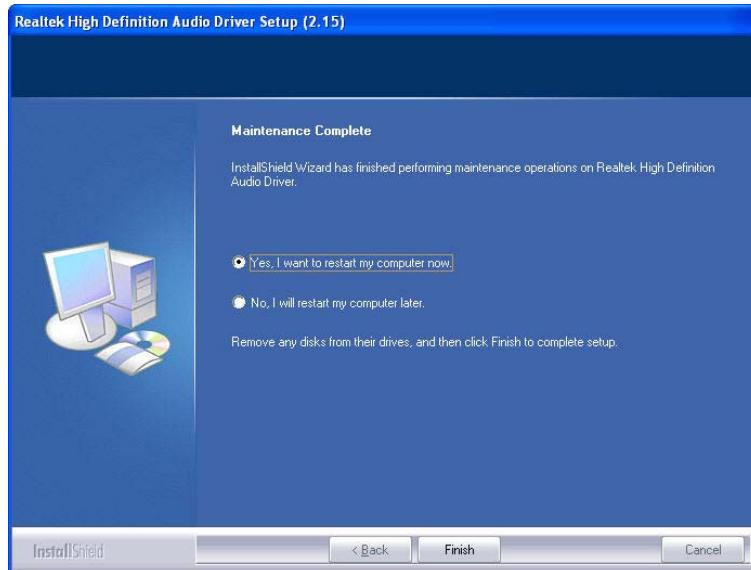

Figure 7-26: HD Audio Driver Installation Complete
Step 7: After the driver installation process is complete, a confirmation screen shown in **Figure 7-26** appears.
Step 8: The confirmation screen shown in **Figure 7-26** allows you to restart the computer immediately after the installation is complete or to restart the computer later. For the settings to take effect the computer must be restarted. Once you have decided when to restart the computer, click the “**FINISH**” button.